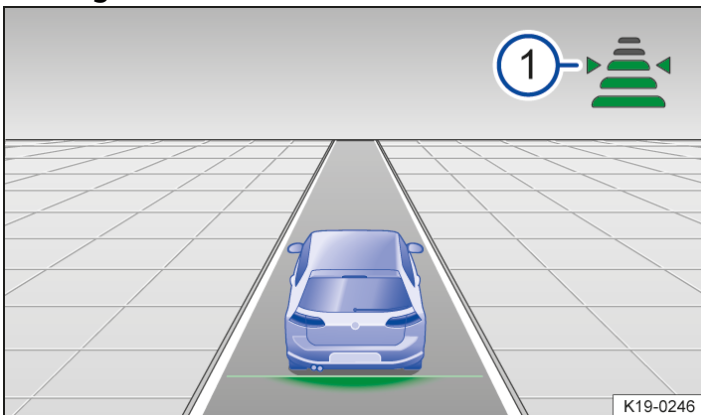

Fig. 1 On the instrument cluster display: set distance ①, ACC regulating (illustration).
The instrument cluster display shows the chosen setting → Fig. 1 ①. Please observe any country-specific requirements for the minimum distance.